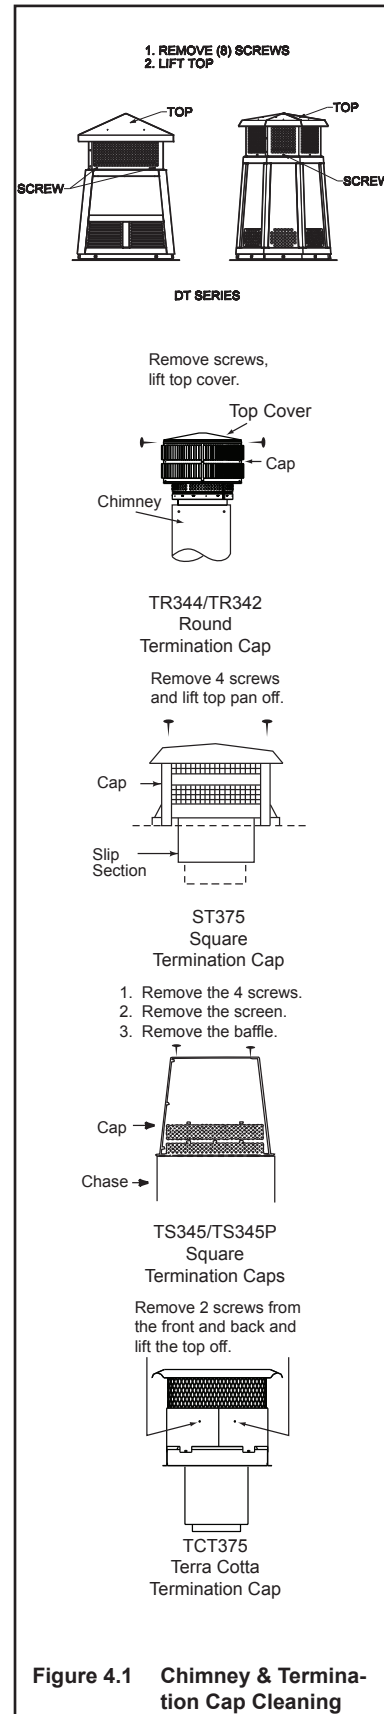

Figure 4.1 Chimney & Termination Cap Cleaning
- Regardless of desired heat output, when loading the fireplace, burn your fireplace with the combustion air control wide open (fully to the right) for a minimum of 5 to 15 minutes (refer to Figure 4.1).
- Remove the top of the termination cap as shown in Figure 4.1 to clean the cap and chimney.